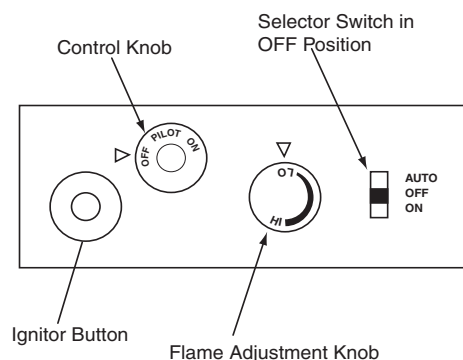

Figure 17 - Control Knob and Ignitor Button Location, Manual Controlled
4. Press in and turn control knob clockwise to the OFF position (see Figure 17).
5. Wait five (5) minutes to clear out any gas. Then smell for gas, including near the floor. If you smell gas, STOP! Follow "B" in the safety information, starting in column 1 of this page. If you don't smell gas, go to the next step.
6. Press in and turn control knob counterclockwise to the PILOT position. Press in control knob for five (5) seconds (see Figure 17).